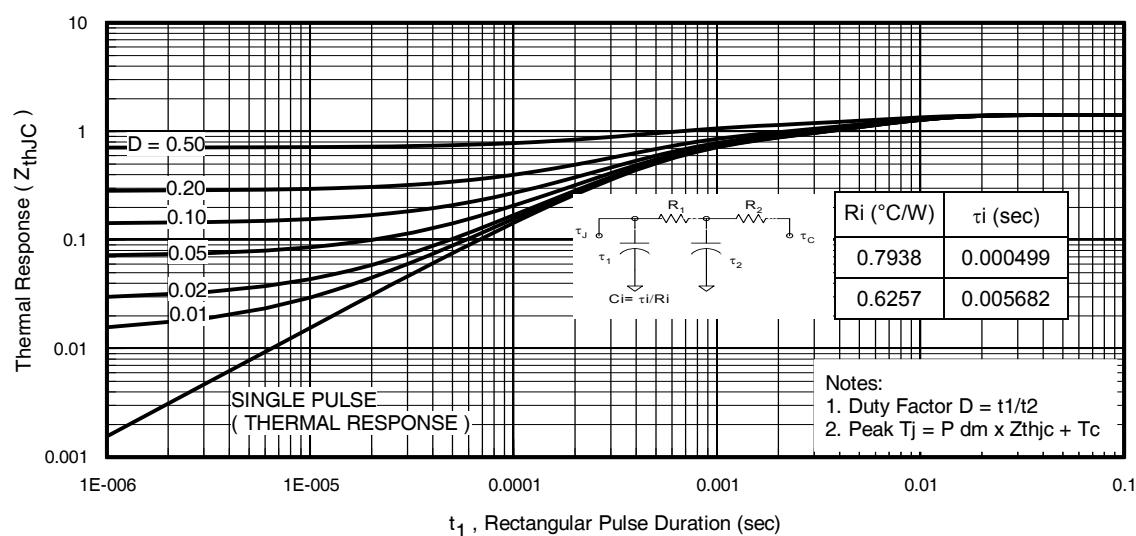
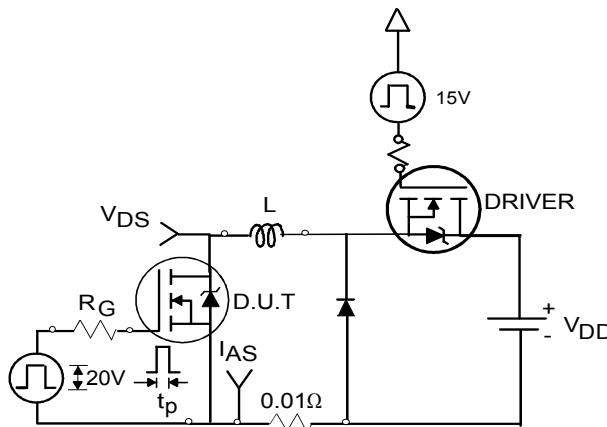

Fig 11. Maximum Effective Transient Thermal Impedance, Junction-to-Case
Fig 12a. Unclamped Inductive Test Circuit
- ① Repetitive rating; pulse width limited by max. junction temperature. (See fig. 11)
- ② Limited by T_{Jmax} , starting $T_J = 25^\circ\text{C}$, $L = 0.197\text{mH}$, $R_G = 25\Omega$, $I_{\text{AS}} = 32\text{A}$, $V_{\text{GS}} = 10\text{V}$. Part not recommended for use above this value.
- ③ Pulse width $\leq 1.0\text{ms}$; duty cycle $\leq 2\%$.
- ④ $C_{\text{oss eff.}}$ is a fixed capacitance that gives the same charging time as C_{oss} while V_{DS} is rising from 0 to 80% V_{DSS}
- ⑤ Limited by T_{Jmax} , see Fig.12a, 12b, 15, 16 for typical repetitive avalanche performance.
- ⑥ This value determined from sample failure population. starting $T_J = 25^\circ\text{C}$, $L = 0.197\text{mH}$, $R_G = 25\Omega$, $I_{\text{AS}} = 32\text{A}$, $V_{\text{GS}} = 10\text{V}$.
- ⑦ When mounted on 1" square PCB (FR-4 or G-10 Material). For recommended footprint and soldering techniques refer to application note #AN-994
- ⑧ R_θ is measured at T_J approximately 90°C
3. Equation below based on circuit and waveforms shown in Figures 12a, 12b.